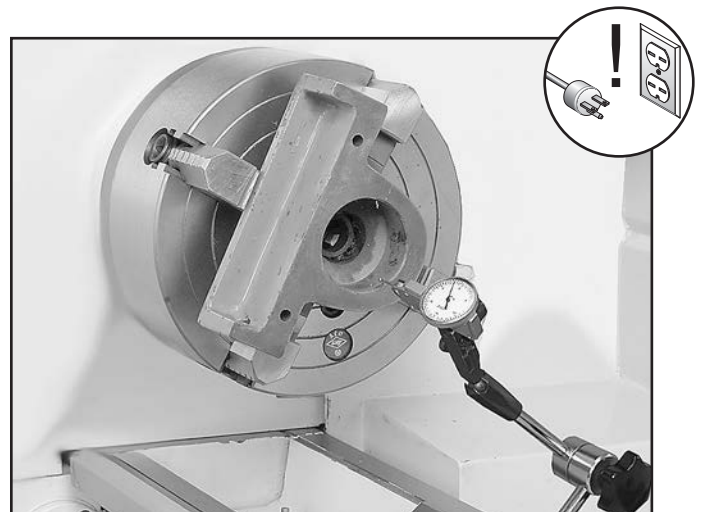

Figure 29. Example of using a test indicator to align a workpiece in a 4-jaw chuck.
- Make fine adjustments by using a test indicator and adjusting the jaws until the workpiece is precisely aligned (see **Figure 29**).